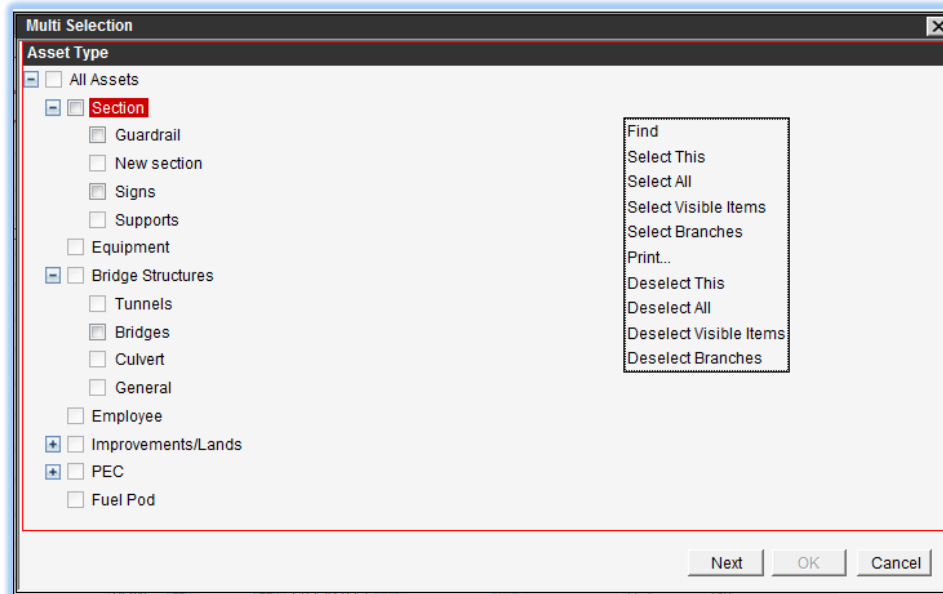

Figure 2-3. Dialog Box – Asset Type (Section and Bridge Structures Expanded)
5. When prompted for Asset Type (Figure 2-3), apply a checkmark beside the Asset Types that apply to the Project. For example “Section” and/or “Bridge Structures.” Although you will see Asset Types that may not apply to Roadway, only the Asset Types relevant to Roadway operations will be available for selection.
TIP! A dialog box shows a list of Asset Groups (Figure 2-3), individual Asset Types may be expanded, by using the  sign.